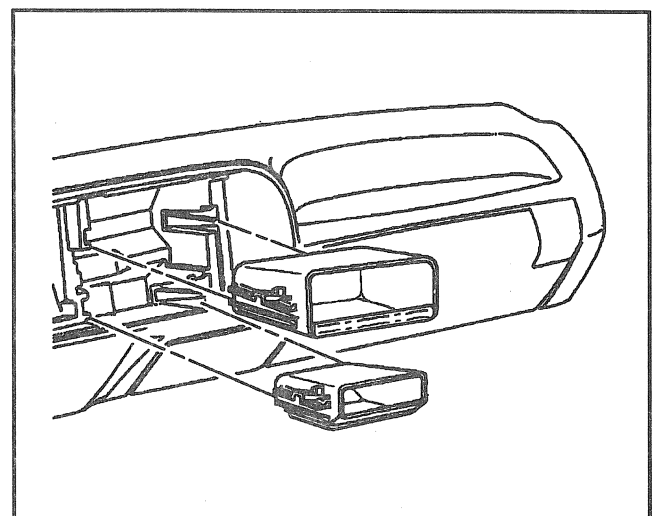

Figure 21—I/P Auxiliary Storage Compartments
7. I/P auxiliary storage compartments (if equipped) (Figure 21).